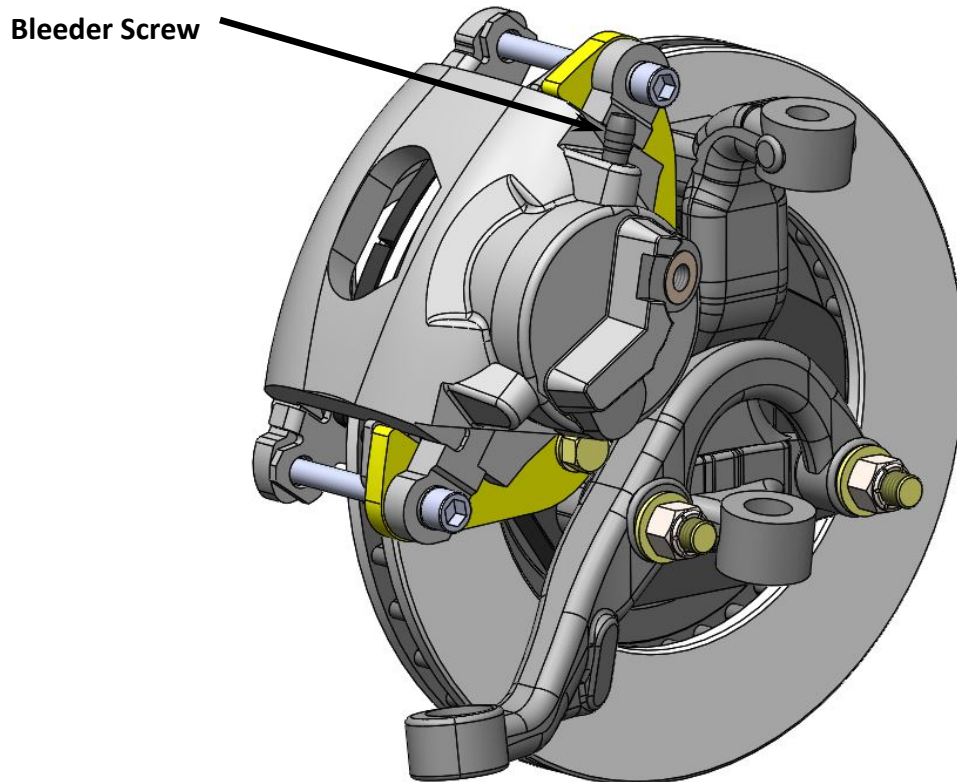

Figure 7 - Caliper Installed
8. Mount the caliper to the caliper mounting bracket. With the pads installed in the caliper, slide the caliper over the rotor and line up the mounting ears of the caliper with the holes in the caliper mounting bracket. Tighten and torque the bolts to 45 ft/lbs. **NOTE:** When installing the calipers, make sure the brake bleeders are pointing upward. See Figure 7 below for reference.